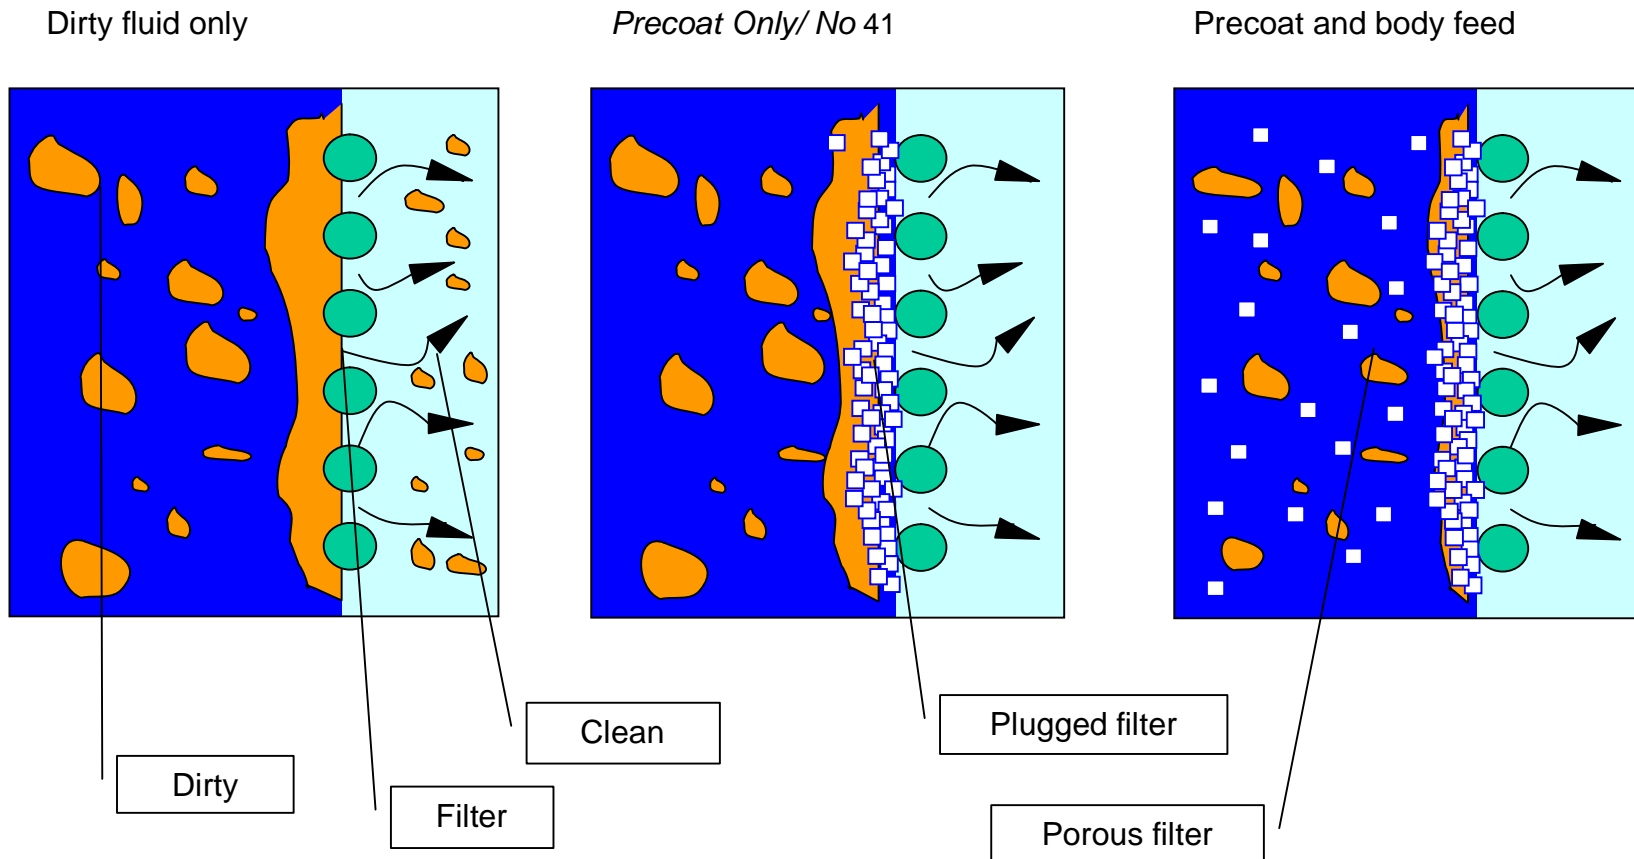

Figure 1-1 Working principle of Diatomaceous Earth (DE) filter
1.3. WORKING PRINCIPLE (FIGURE 1-1)